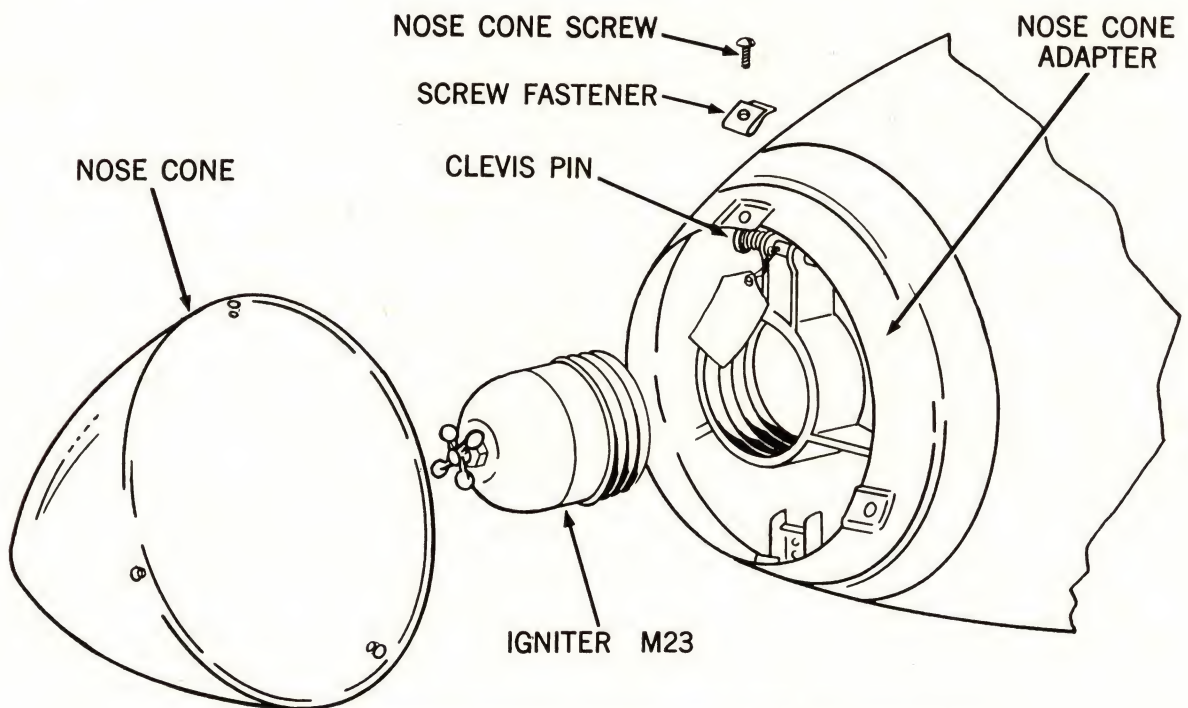

Figure 11.—Nose Cone Assembly With Igniter M23, Exploded View.
- b. If Igniters M23 are used, unscrew igniter adapters and screw igniters into nose and tail end plate castings (figure 11).